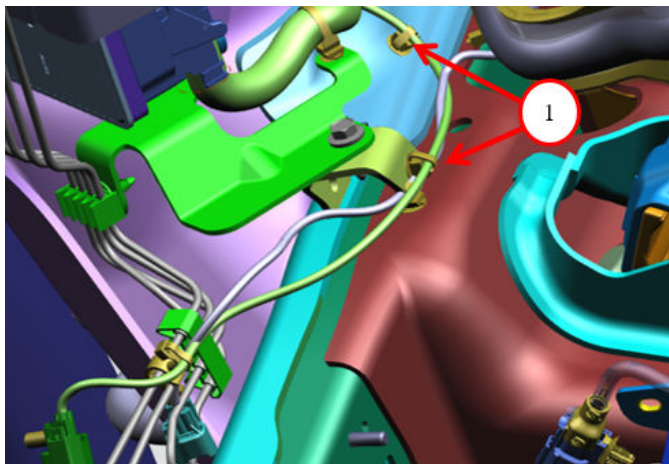

Fig. 3
3. Inspect the wheel speed sensor wiring and wiring clips for proper routing Fig. 3.
4. Is the wheel speed sensor wiring routed correctly Fig. 3?